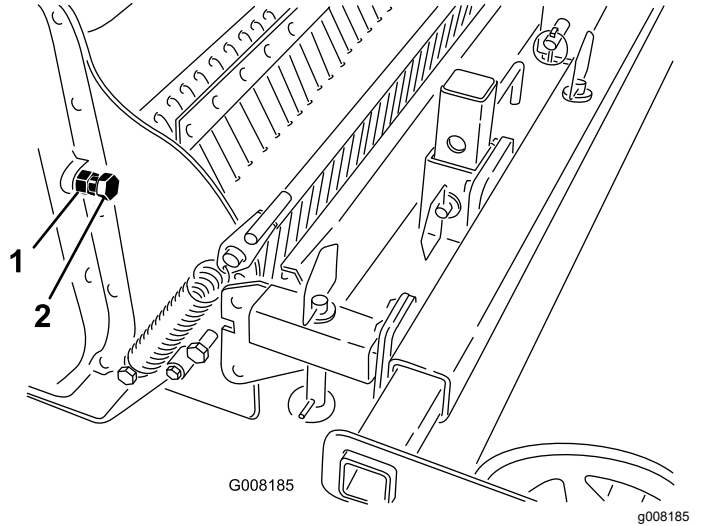

Figure 12
3. Loosen the jam nut on the chain-adjusting screw (Figure 12).
4. Turn the screw by hand until you feel resistance (Figure 12).